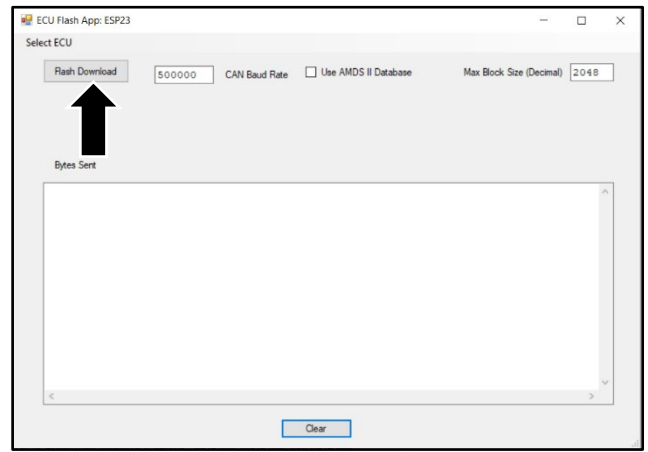

Figure 7
12. Select "Flash Download" (refer to Figure 7).